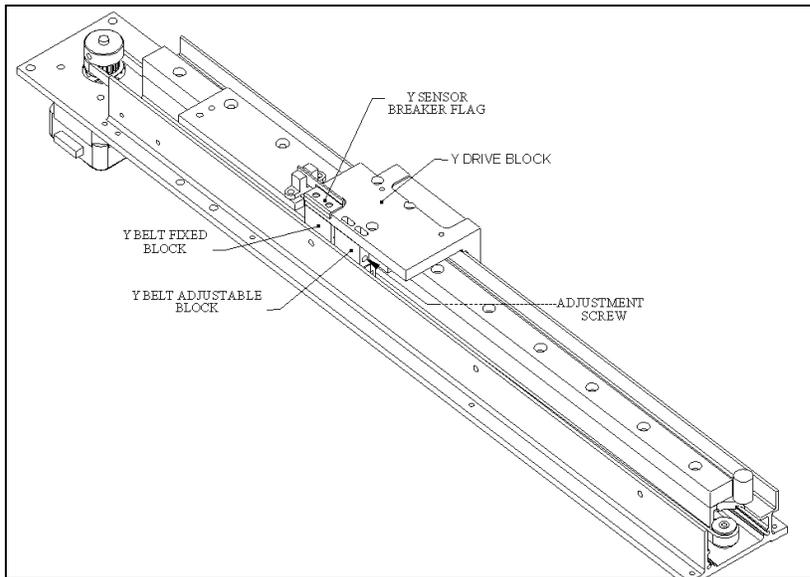

Figure 7-42 Removing the Sensor Flag and Belt Blocks
- 3 Remove the M3 x 30 button Posi head screw (adjustment screw) that connects the Y Belt Fixed Block and Y Belt Adjustment block. Remove the Y sensor breaker flag and the Y Belt Fixed Bracket (Figure 7-42) by removing the 2 M3 x 12 Cap head screws and remove the Y adjustable block by removing the two M 3 x 30 Posi screws.